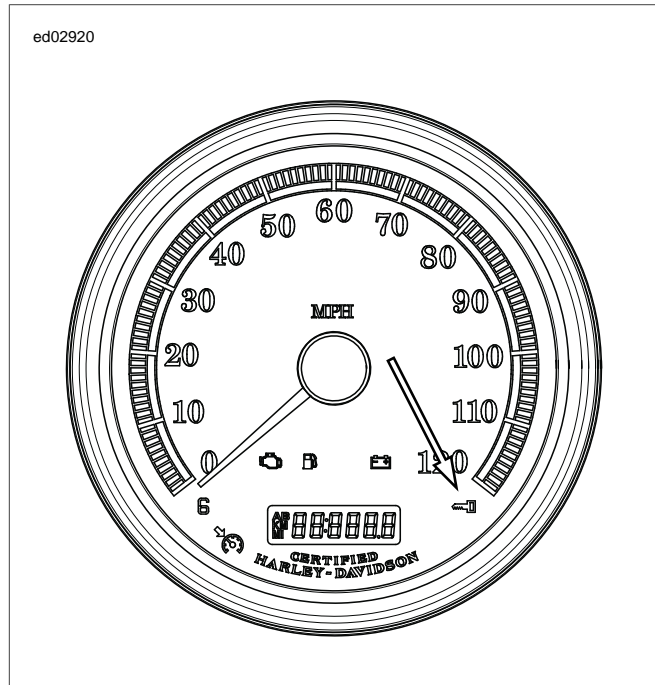

Figure E-8. Security Lamp (Key Icon)
- See Figure E-8. When the Ignition Switch is turned to IGN, the security lamp will illuminate for approximately four seconds and then turn off.